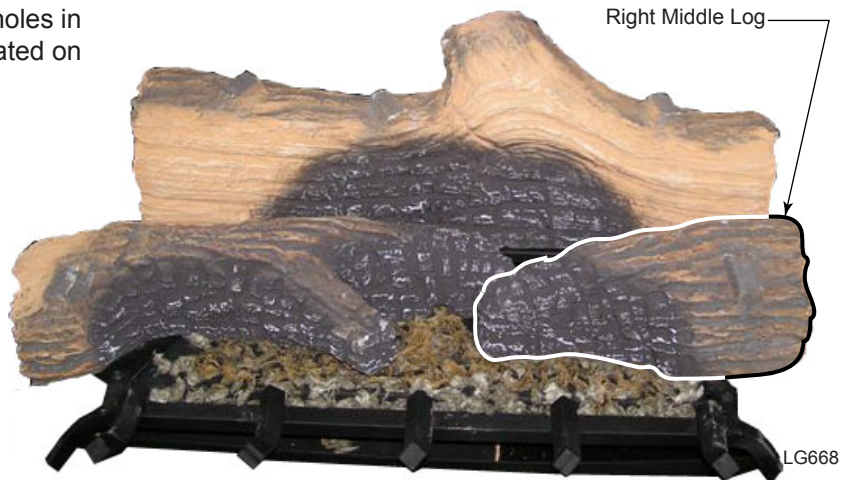

Figure 61 -
- Place the right middle log by aligning the holes in the bottom of the log with the two pins located on the right side of the burner. *Figure 61*